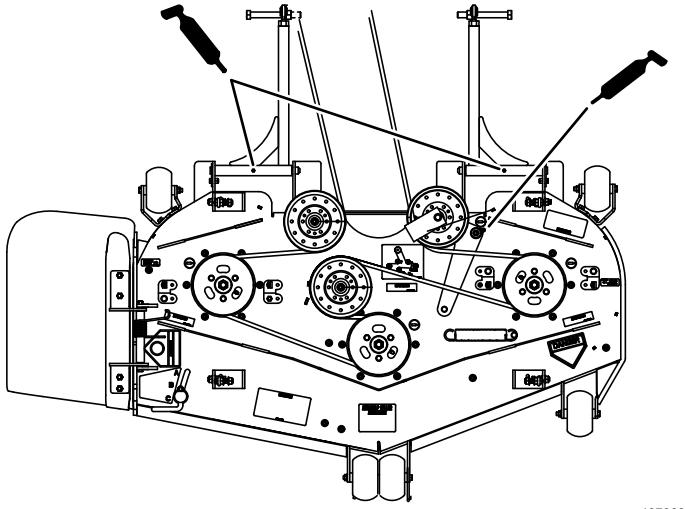

Figure 40
4. Grease the idler arm on the mower deck (Figure 40).
5. Grease the fittings on the push arms (Figure 40).
(Figure 40). If you add oil too fast or block the hole, the oil could back up and foul the air intakes, causing engine damage.